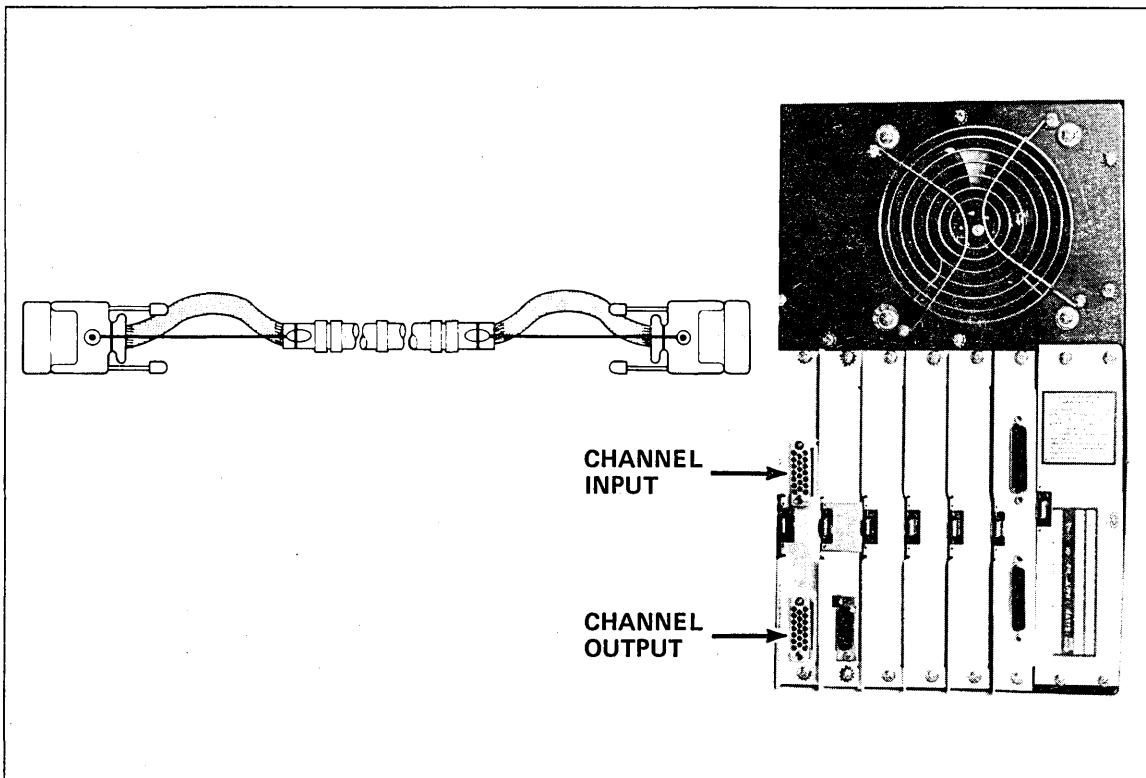

Figure 2-2. Channel Cable and MCI Connectors
3. Connect the cables to the DI. The INPUT cable is plugged into the top connector and the OUTPUT cable is plugged into the bottom connector (figure 2-2). (Input/Output is relative to the channel.) Tighten the connectors finger-tight or use a screwdriver.